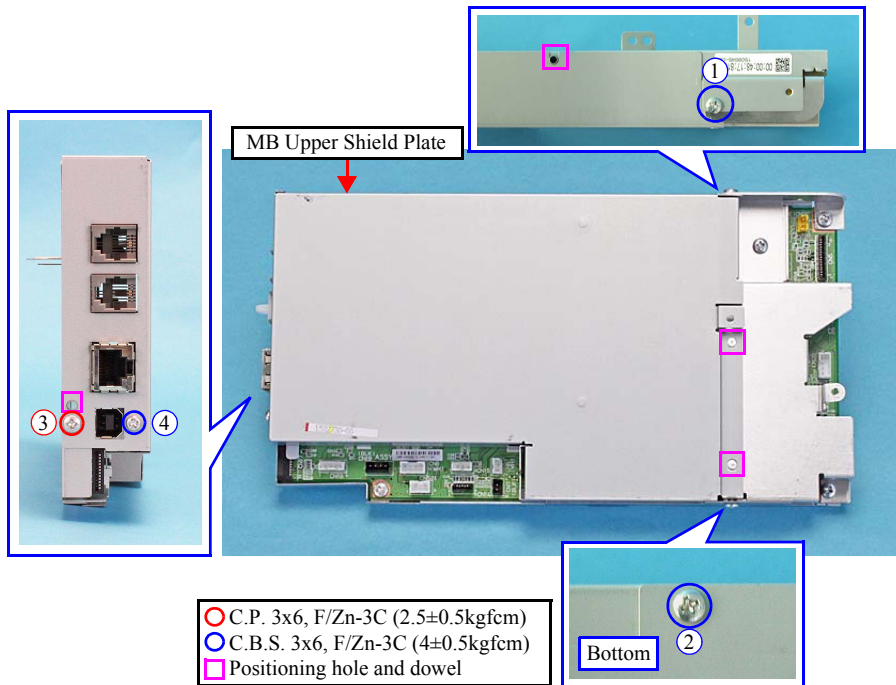

Figure 7-11. Removing the MB Upper Shield Plate
- When reassembling the Main Board Unit, make sure to match the positioning holes (x4) to the dowels (x4) as shown in Figure 7-11.
- When installing the MB Upper Shield Plate, tighten the screws in the order given in Figure 7-11.